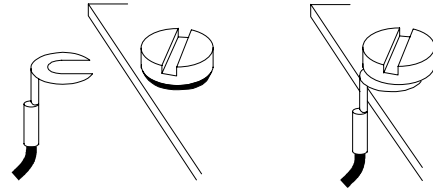

Figure 12. Bend DB-8 Cord Lugs 90° Before Connecting to Terminals
- 1) Bend the ends of the terminal lugs on the DB-8 cord to 90° (see Figure 12).